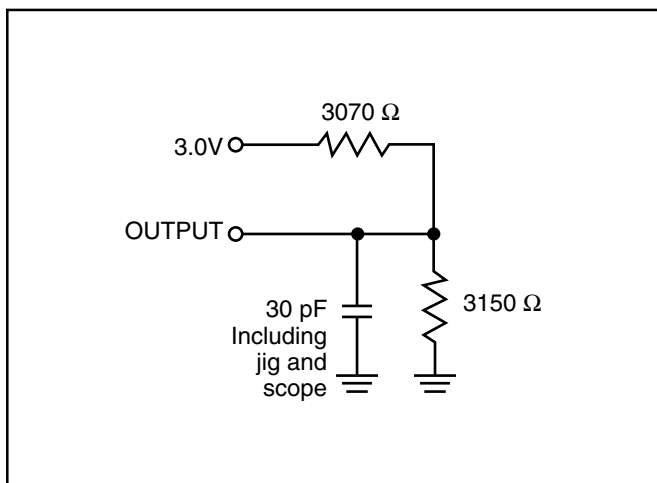

Figure 1
Output Load	See Figures 1 and 2
- Test conditions assume signal transition times of 5 ns or less, timing reference levels of 1.3V, input pulse levels of 0.4 to 2.2V and output loading specified in Figure 1.
1. Test conditions assume signal transition times of 3 ns or less, timing reference levels of 1.3V, input pulse levels of 0.4V to 2.2V and output loading specified in Figure 1.